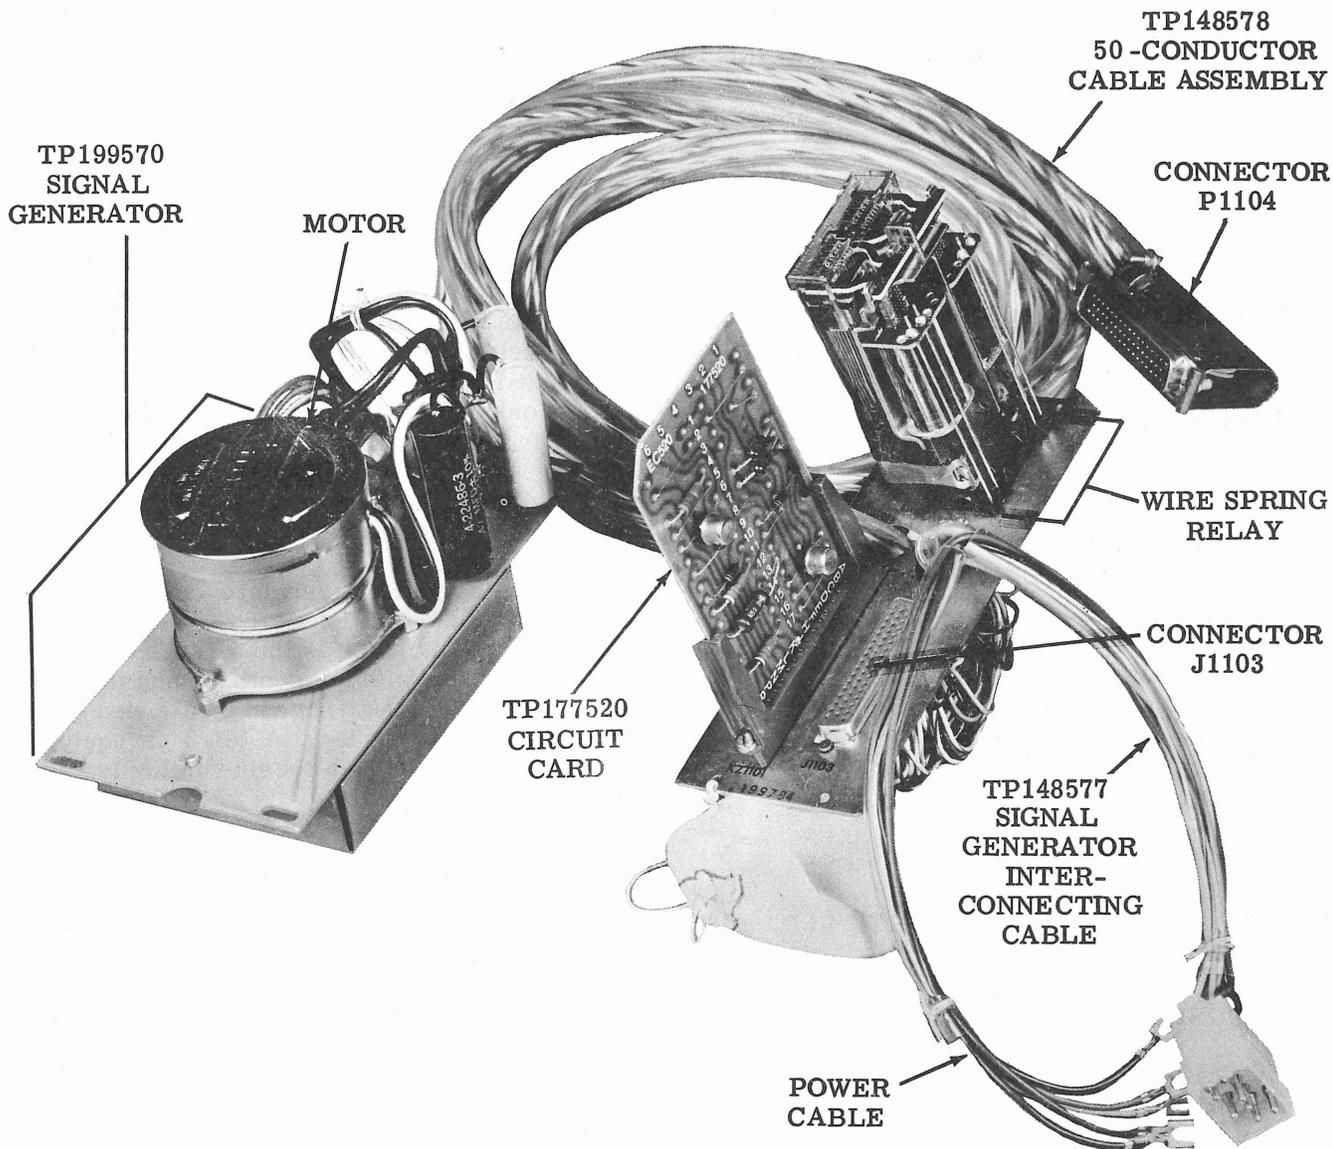
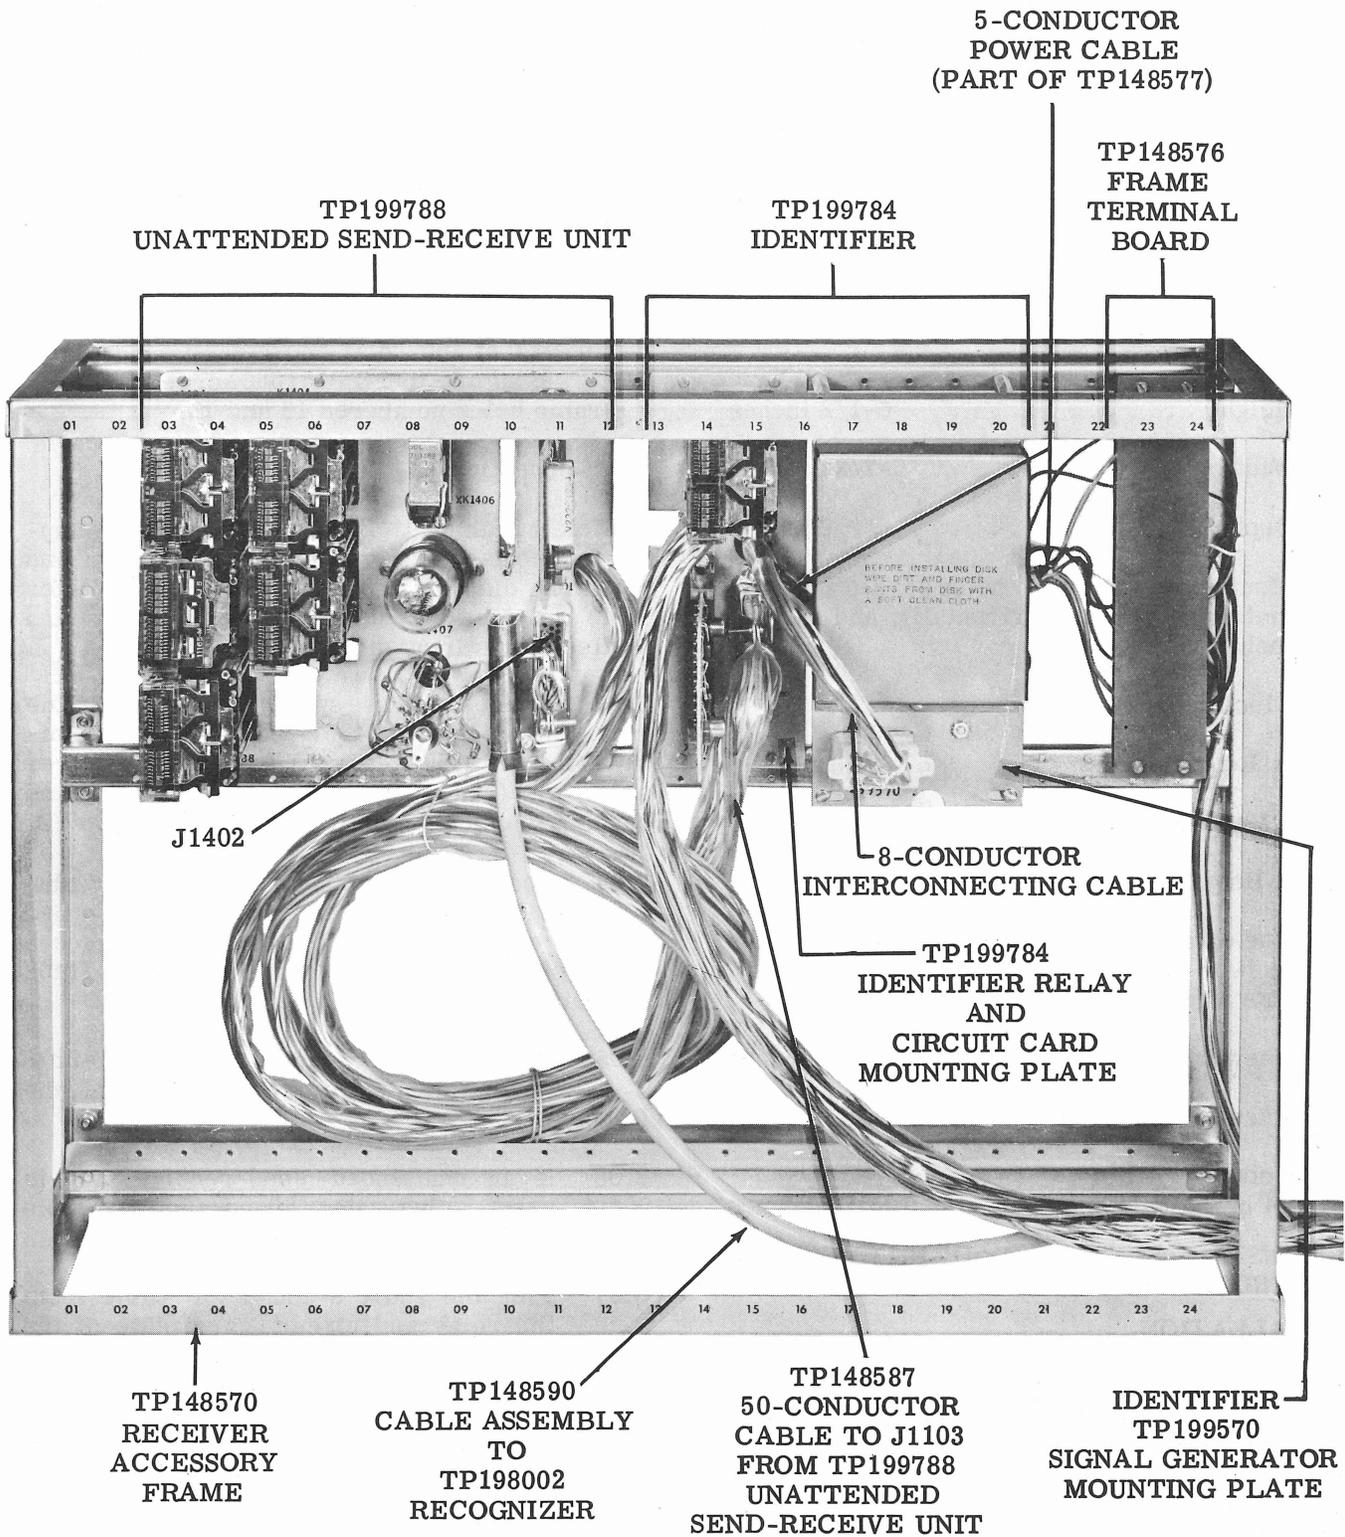

Figure 1 - TP199784 Station Identifier Apparatus Unit
Figure 2 - Receiver Accessory Frame with Identifier and Unattended Send-Receive Unit Options - Right Side View
2.01 The TP199784 station identifier (Figure 1) is essentially a dc code signal generator. When installed in the Tape Receiver it permits the Receiver operator to request data from an unattended Tape Sender which has a recognizer code disc modified to automatically recognize the encoded data request. The identifier is designed for installation in the accessory frame of the 5B Receiver.
mount on another plate. A cable from the relays and circuit card plugs into a jack (J1001) mounted on the signal generator mounting plate (Figure 2). The signal generator consists of a 117 v ac synchronous motor (Figure 1) and a coding disc (see attached diagram 7029WD). The disc may be coded to match an identical one in a TP198002 recognizer unit option of the distant sender by scraping away necked-down areas of etching (refer to the paragraph on CODING DISC). In operation, the motor rotates the disc which produces local signals which, in turn, are transmitted through the data set to the distant
2.04 A cable from the identifier (Figures 1 and 3) plugs into the Receiver. A cable from the unattended send-receive option, if it is used, plugs into a receptacle on the identifier. If the unattended send-receive option is not used, the strapping plug is inserted in this receptacle. If neither of the above options are in use, the strapping plug will be found in the Receiver and
2.05 The two mounting plates that mount the identifier are mounted together on the auxiliary apparatus frame of the Tape Receiver 5B. (Figure 2)
3.02 Remove the accessory frame from the lower section of the 5B Receiver cabinet (see Figure 2) and, using the hardware supplied,
3.07 Plug the short 8-conductor cable from the relay and circuit card plate of the identifier into the receptacle in the generator plate of the identifier (Figure 2).
3.11 Remove the cover from the signal generator assembly plate (Figure 2). Remove the coding disc held by a wing nut from the signal generator.